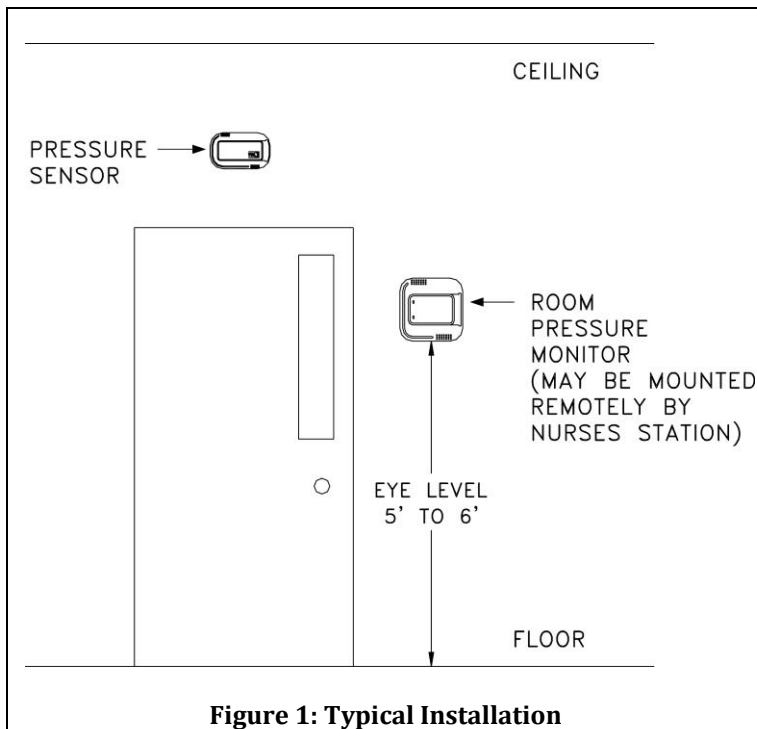

Figure 1: Typical Installation
- Determine pressure sensor location (Figures 1, 2 and 3). Pressure sensor typically mounts in the reference space, and the dummy housing mounts in the isolation room.
- Determine pressure sensor location (Figures 1, 6 and 7). Pressure sensor typically mounts in the reference space, and the plate mounts in the clean room.
- Select the mounting location of the pressure monitor/controller. The construction plans normally show the mounting location. If no location is specified, then the unit is typically installed as shown in Figure 1. Alternate mounting locations are nurses' station, other staff areas, etc.